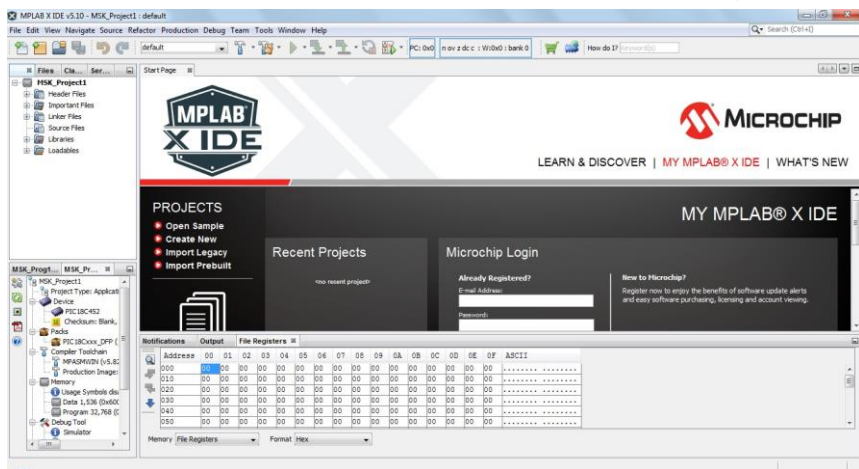

Fig 4.13a Your Project Window “MSK_Project1”
10. Enter the Project Name and select the desired project location and click on Next. Your MPLAB project is created, and window appears as shown in Fig 4.13a.